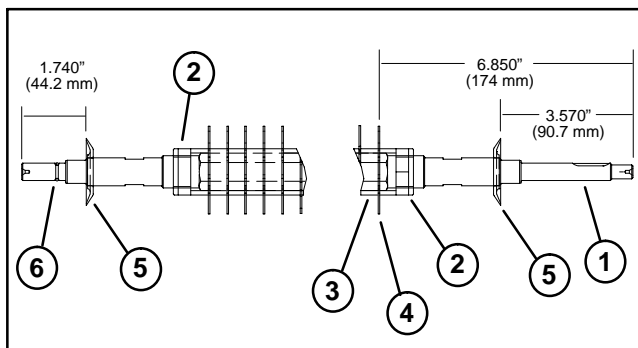

Figure 9
1. Install lock nut on drive end of groomer shaft. Place first spacer and then first blade on shaft. Adjust location of lock nut so first blade is 6.850" (174 mm) from drive end of groomer shaft (Fig. 9).
5. Place seal guards on groomer shaft. Position seal guard on drive end of shaft (with key slot) 3.570" (90.7 mm) from shaft end. Position seal guard on non-drive end of shaft 1.740" (44.2 mm) from shaft end (Fig. 9).